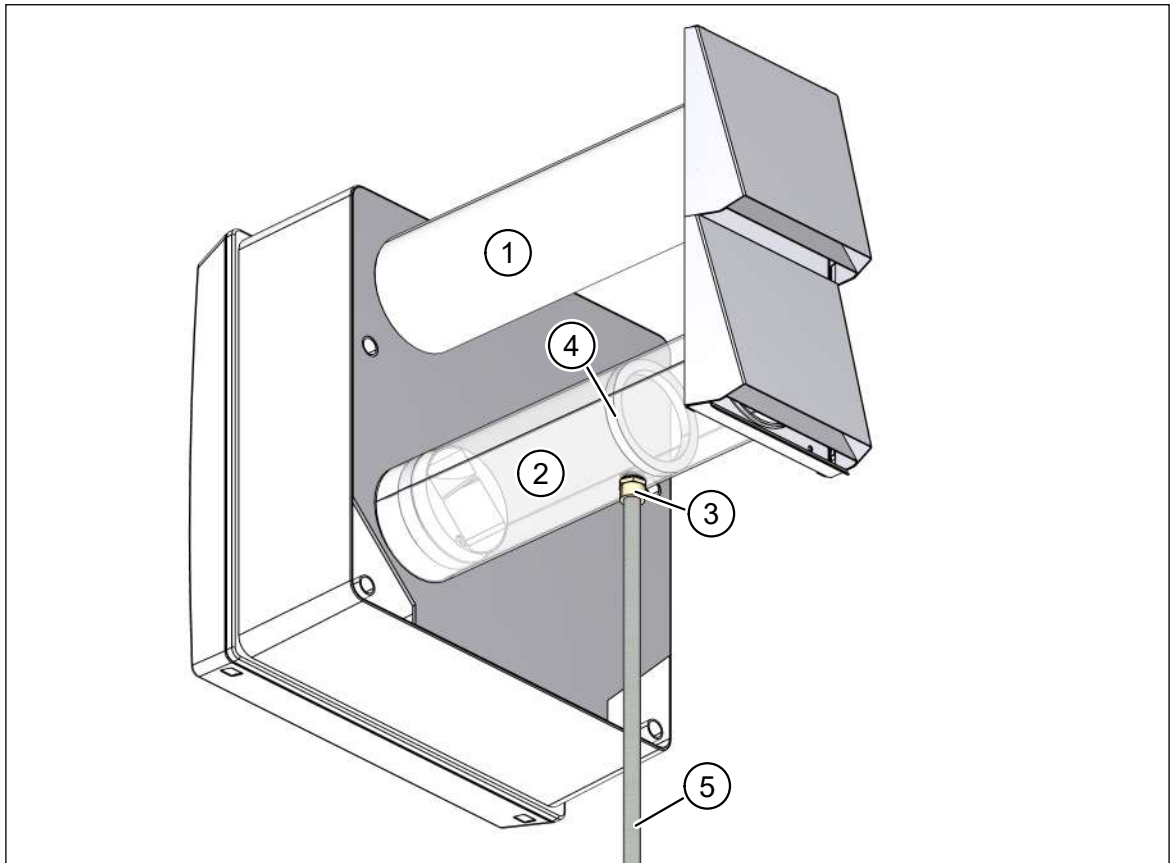

Fig. 18: Condensate drain on the exhaust air pipe
- Outdoor air pipe, DN 100, 0.5 m (item 1 in Fig. 18)
- Exhaust air pipe, DN 100, 0.5 m (item 2 in Fig. 18), with 1/2" male thread connection (item 3 in Fig. 18) and barrier (item 4 in Fig. 18) for retaining the condensate.
- In cold regions, protect the condensate drain pipe (item 5 in Fig. 18) against frost, e.g. by running it behind the facade insulation.